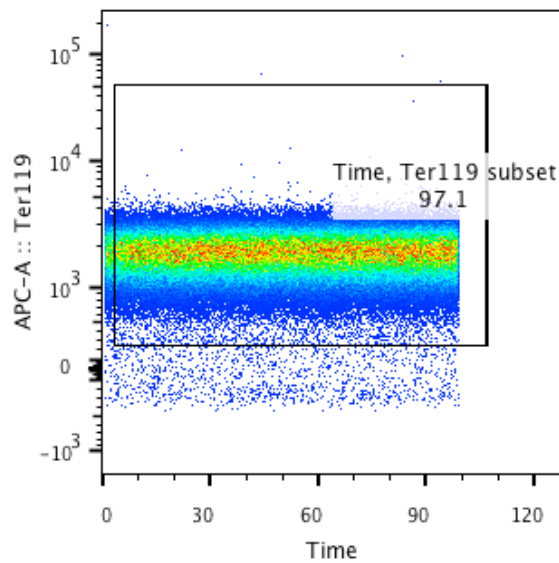

Figure 3: Time vs APC-Ter119
- Here you want to avoid any fluctuations in the event rate. This will often mean taking the middle section of the events (see figure 3)